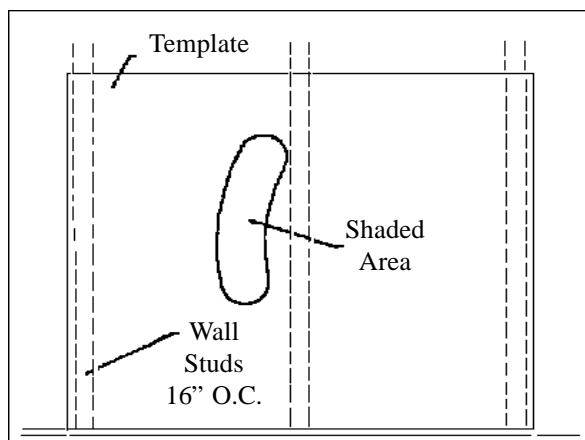

FIGURE 6
- Mark location for 3-1/2" diameter hole between studs. Hole should be offset to miss studs. (See Figure 6).